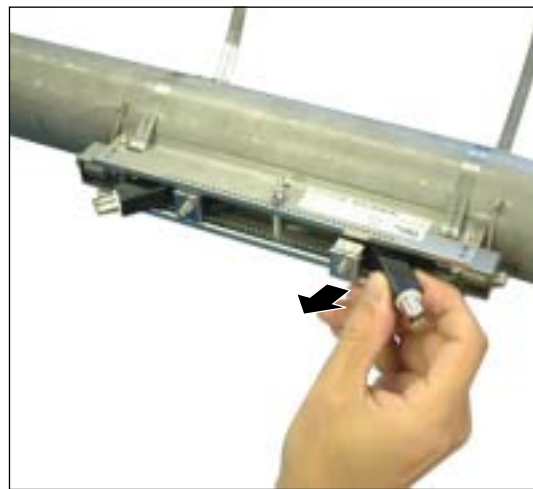

Fig. 3-22
- (4) Making sure claws have been disengaged from both sides, and pull out the sensor unit from the frame (Fig. 3-22).